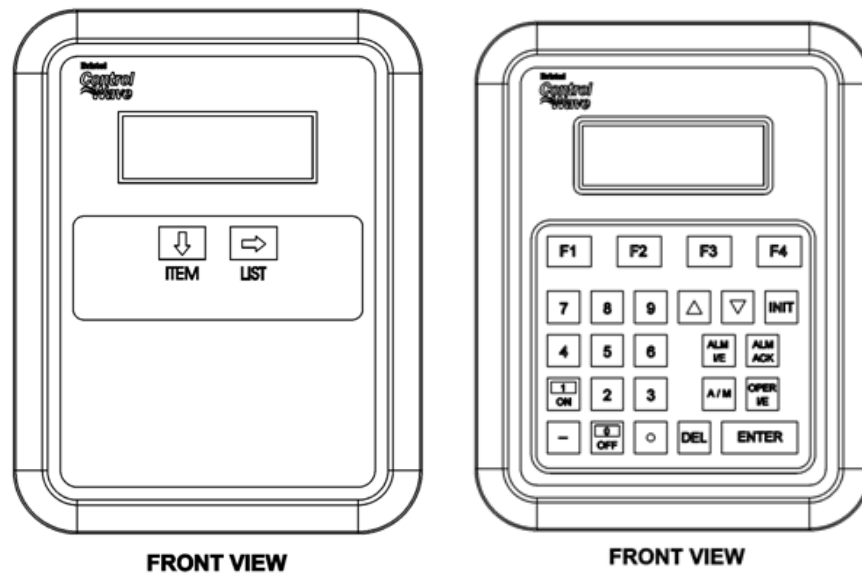

Figure 2-38. Optional 2-Button and 25-Button Keypads
- A 2-button keypad (shown in the left of *Figure 2-38*)
- A 25-button keypad (shown in the right *Figure 2-38*)